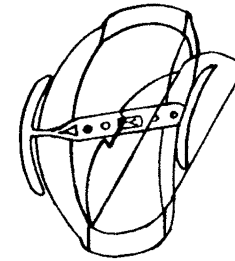
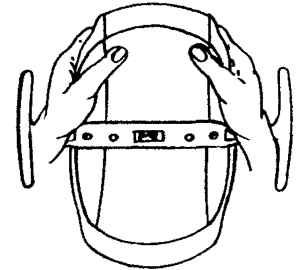

Figure 1
Figure 2
C. To Install Shield - Place one end of shield behind flange at lower end of reflector (See Figure 1). Squeeze sides of shield slightly so that edges of shield fit inside frame of light head. Press on front with each thumb at either side of upper edge of shield until shield snaps behind upper flange (See Figure 2).